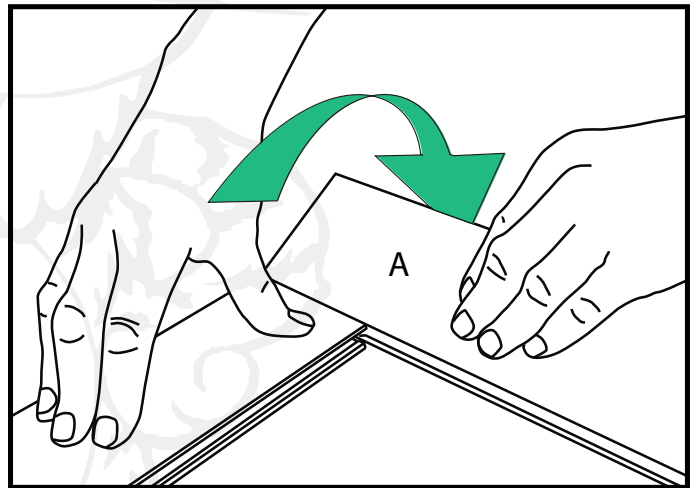

Figure 4
Step 3: Make a row of this pattern starting with the long side of the A panel clicked together with the short side of the previously installed B panel (**Figure 4**). Continue this process with as many panels as may fit along the starting wall.